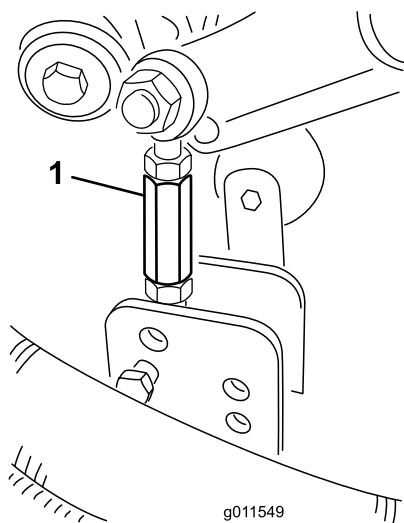

Figure 27
- Remove the hairpin cotters and clevis pins securing the damper links to the mower-deck brackets (Figure 27).